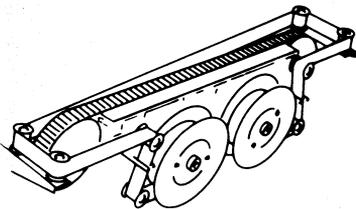

Fig. 45—Friction Feed — 80-Column
8.02 Hold empty spool (with ribbon attached) in one hand and thread the ribbon as shown in Fig. 45, 46, 47 and 48.